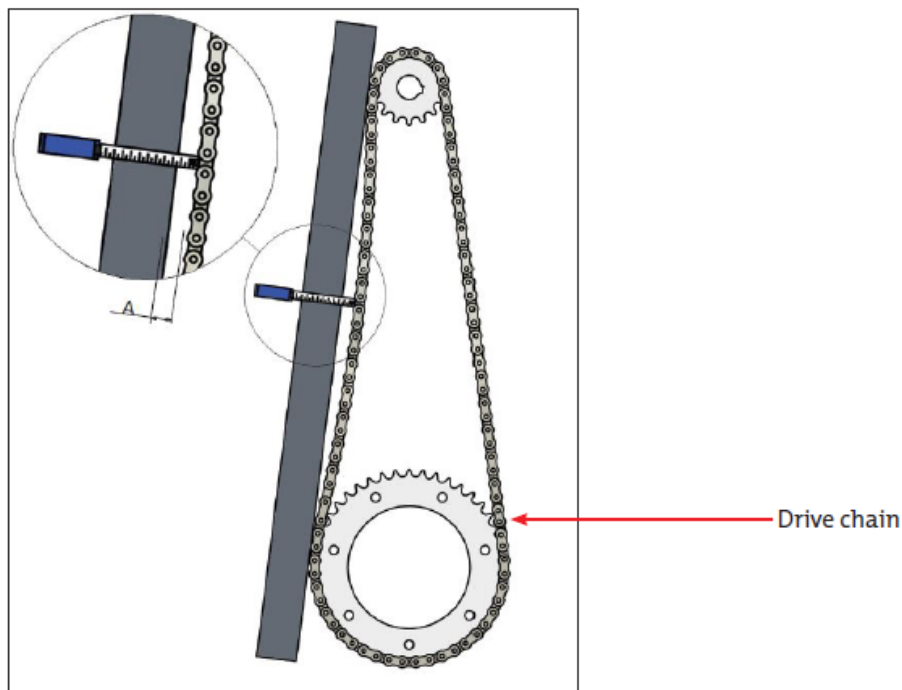

Figure 7.14 Checking drive chain tension
1. Turn the main power switch to the OFF (0) position and lock with a padlock.
4. On the chain's non-tensioned section, use a steel rule to check that measurement A is 5-15 mm, see Figure 7.14.